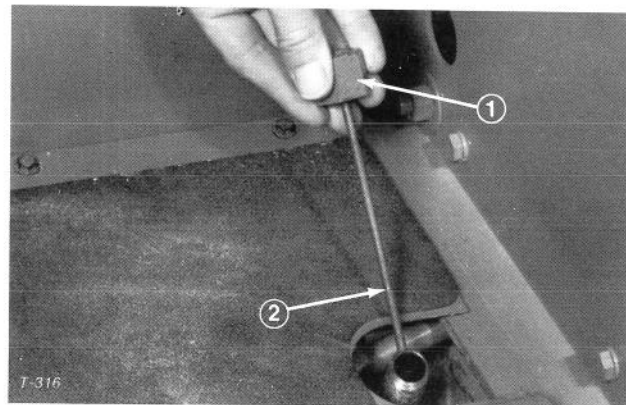

Figure 20
2. Unscrew dipstick cap (Fig. 20) from filler neck and wipe it with a clean rag. Screw dipstick cap fingertight onto filler neck. Unscrew the dipstick and check level of oil. If level is not within 1/2 inch (13 mm) from the groove in the dipstick (Fig. 20), add enough oil to raise level to groove mark. **DO NOT OVERFILL** by more than 1/2 inch (13 mm) above groove.